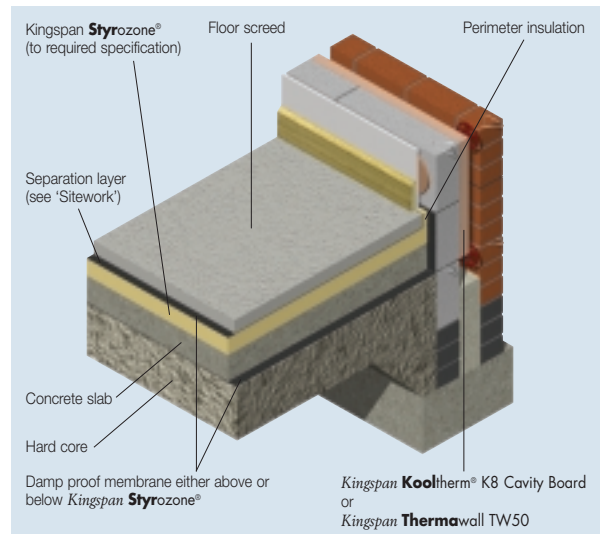

Figure 2 Below the Floor Screed
*Kingspan Styrozone*® is simply laid loose over the concrete floor slab with the necessary water and vapour proof protection. Board joints should be tightly butted, staggered, and laid to a break-bonded pattern. The floor slab should be uniformly flat without steps or gaps to provide continuous bearing support to the *Kingspan Styrozone*®. A thin section of the board should be used around the perimeter of the floor area being insulated. This should be placed vertically against the abutting wall so that it connects with the insulation laid over the slab and protects the edge of the screed, so preventing cold bridging of the floor screed. Boards are overlaid with a separating layer of building paper to BS 1521: 1972 (1994) (Specification for waterproof building papers), Grade B1F or polythene sheet (not less than 125 micron/500 gauge) between the screed and the *Kingspan Styrozone*® to prevent the wet screed penetrating joints between the boards. Use a sand and cement screed laid to a minimum thickness of 75 mm or greater as required for the intended purpose of use (see Figure 2).